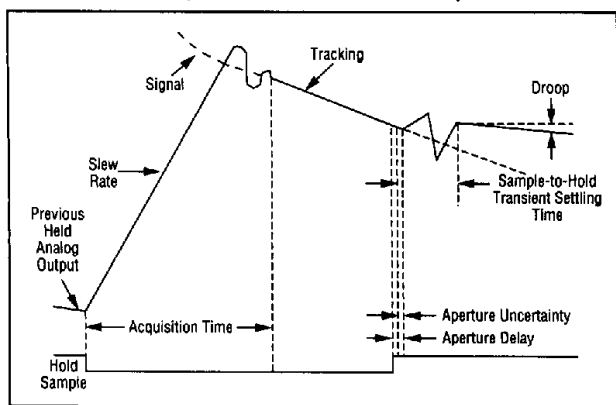

Figure 2. SHA2410 Timing Diagram.
Sample-and-hold amplifiers are often used to sample many channels at the same instant in time, such as in seismic data acquisition, and to reduce the time uncertainty (and resultant amplitude error) when digitizing fast time-varying signals. Practical systems have inherent finite sampling apertures; however, the SHA2410 minimizes this time to an aperture uncertainty of 200 ps. Figure 2 illustrates the typical timing of the SHA2410 (5). If a system uses an A/D converter without a sample-and-hold, the time uncertainty is the conversion time of the A/D converter, which is several orders of magnitude longer than the S/H's aperture uncertainty.